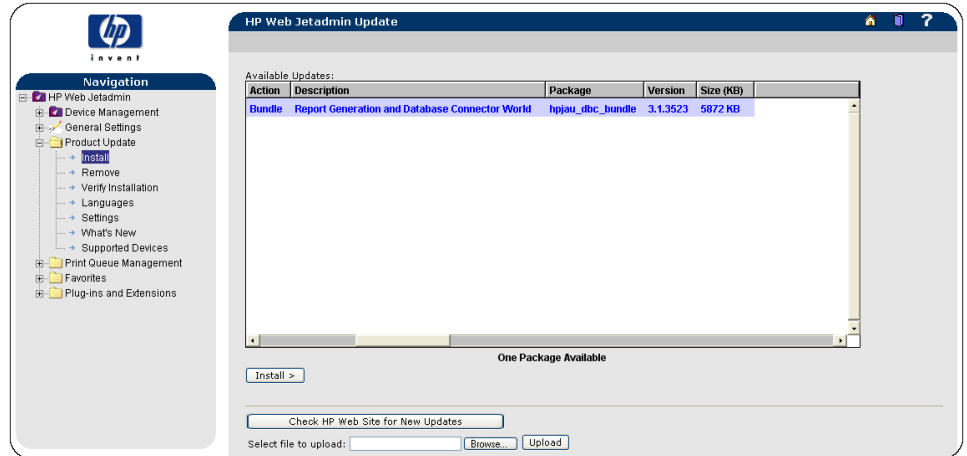

Figure 3. Installation
2. Select Product Update from the Navigation tree (see Figure 3)